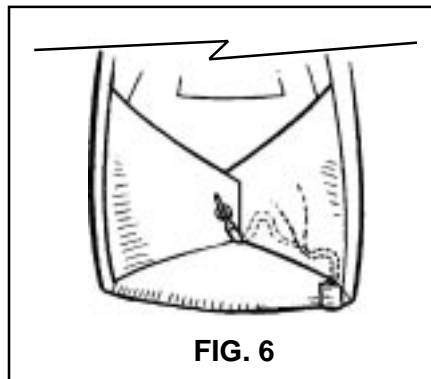

FIG. 6
4. Stuff rolled pilot chute completely into pouch making sure the handle sticks out enough for an easy grip. Place any exposed bridle under the bridle cover leading to the spandex pocket. (**FIG. 6**).
6. Tuck the slack in the tape under the right side flap (FIG. 6).